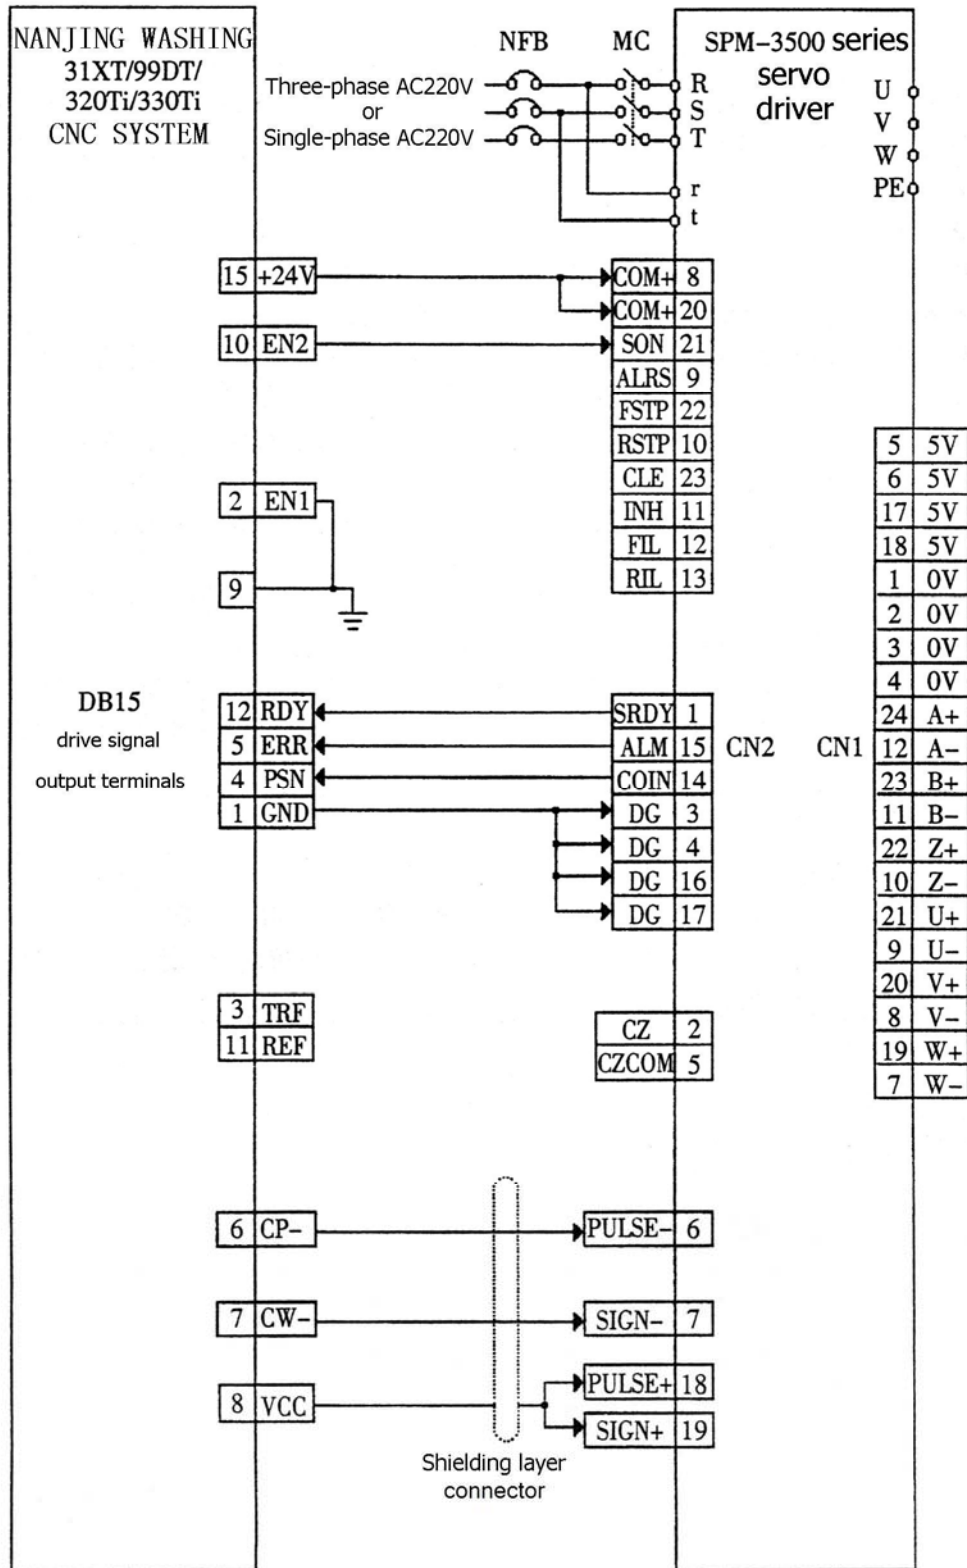

Fig5.1 Standard wiring for position control mode between the driver and our company's 31XT/99DT/320Ti/330Ti CNC system
- 1) Fig 5.1 shows: The standard wiring for position control mode between the driver and our company's 31XT/99DT/320Ti/330Ti CNC system;